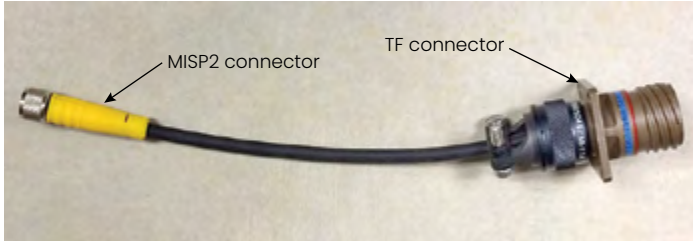

Figure 5: TF-MISP2 converter cable
If an existing moisture measurement system uses a **TF-series** moisture probe, the cable for that probe may be adapted for use with an **MISP2** probe. To retrofit the existing system, refer to *figure 5* below and complete the following steps:
3. Using Panametrics *adapter cable 704-1362-00*, shown in *figure 5* above, connect one end of the cable to the **MISP2** probe and connect the other end to the existing **TF-series** cable connector.